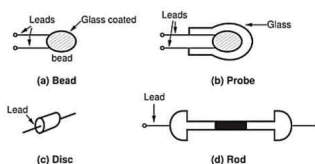

Fig. Q.27.1. Different forms of construction of thermistors
• Thermistors are available in a wide variety of shapes and sizes as shown in the Fig. Q.27.1.